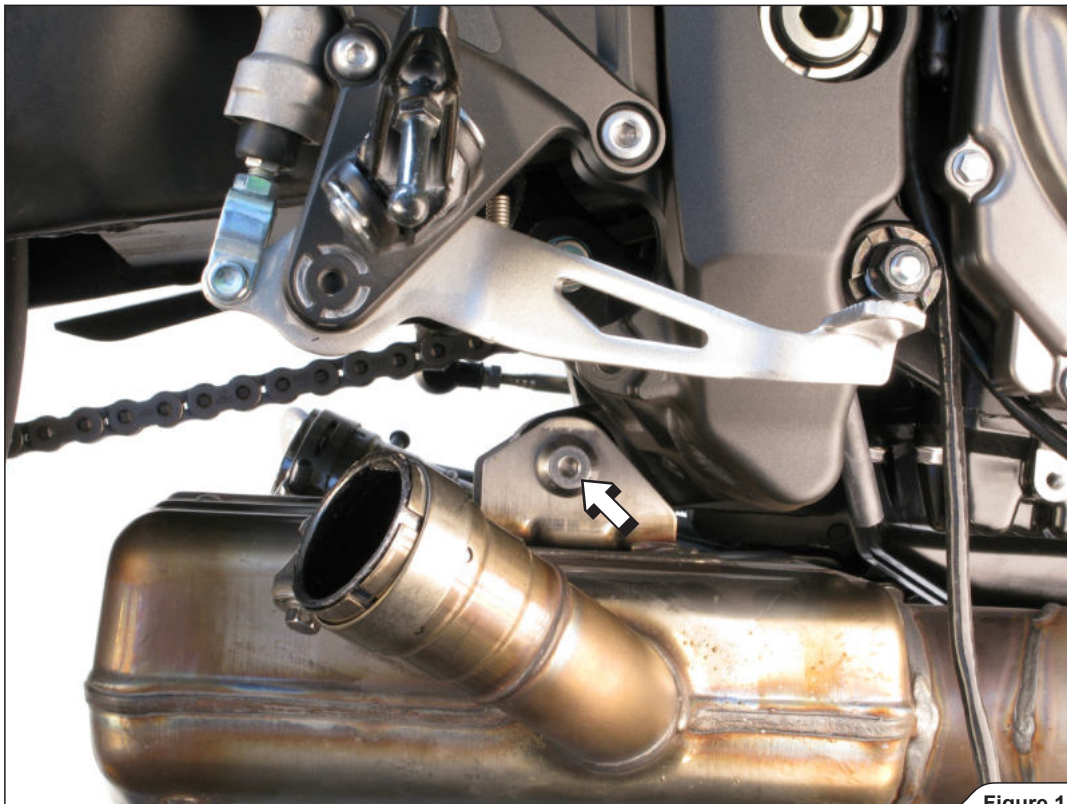

Figure 13
12. Unscrew the marked bolt and carefully remove the headers off the motorcycle (Figure 13).